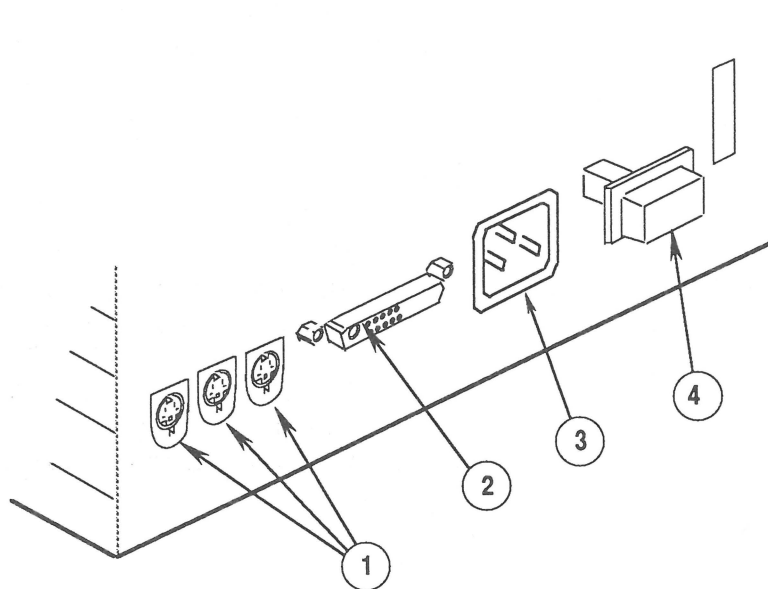

FIGURE 3
- Three ADB ports (Figure 3, #1)
- Video connector (Figure 3, #2)
- Power socket (Figure 3, #3)
- Security lock opening (Figure 3, #4)